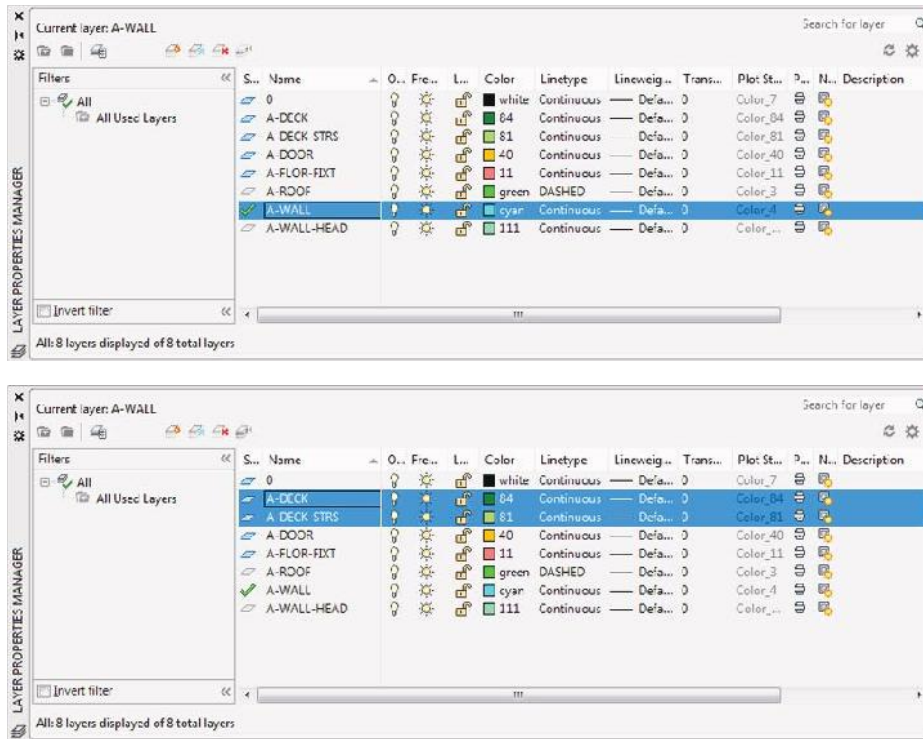

FIGURE 6.32 : The layers, now listed alphabetically (top), and after turning off the selected layers (bottom)
Notice that layer 0 is still first in the list and that the other layers have been reorganized alphabetically (see the top of Figure 6.32).
8. Click one of the lightbulbs of the selected layers (see the bottom of Figure 6.32).